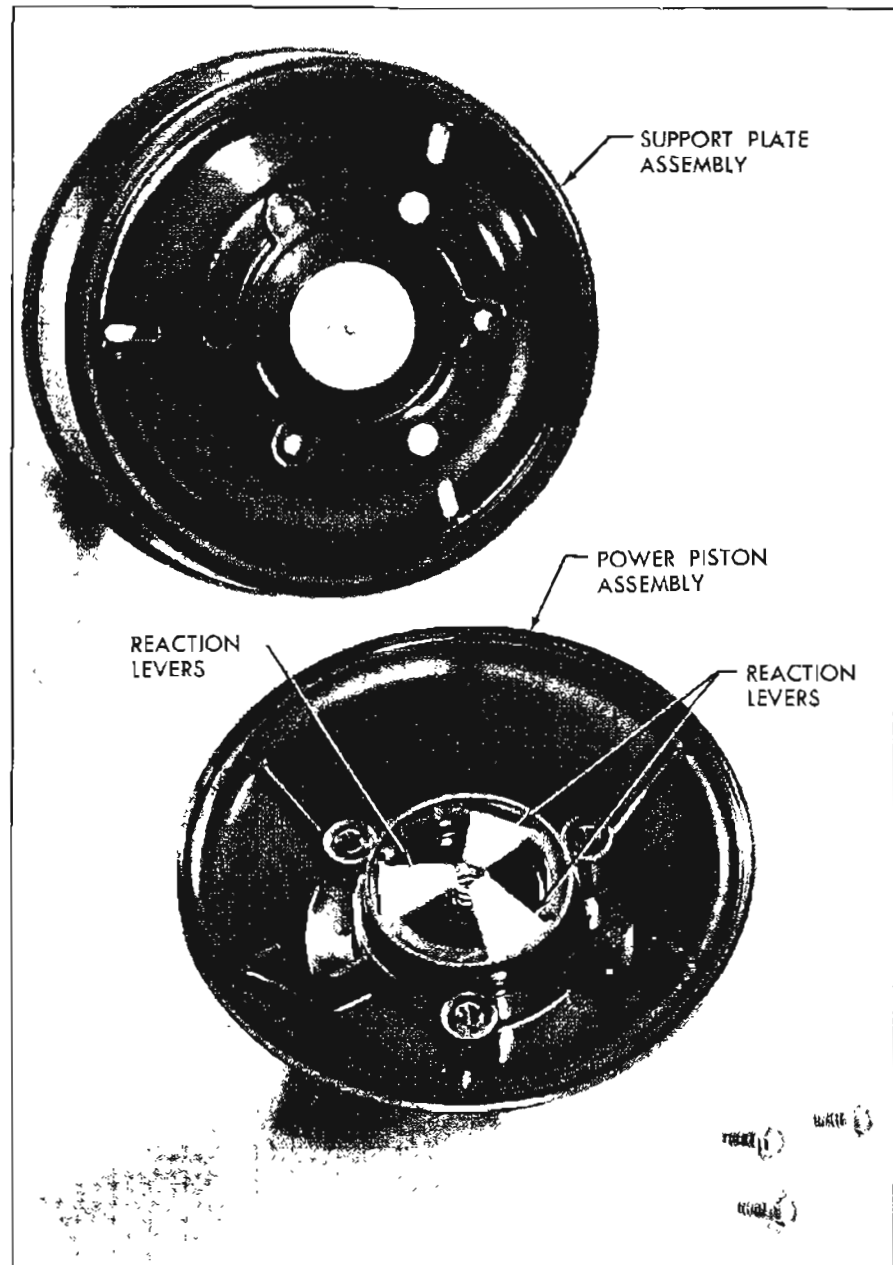

Figure 9-27—Installing Parts into Power Piston
knurled end of the master cylinder push rod so that it lies against the shoulder of the push rod. The master cylinder push rod is now inserted through the support plate so that the hydraulic reaction plate lies flat against rear side of support plate. See Figure 9-27.
12. Install the air valve "O" ring into the groove in the O.D. of the air valve. Place the air valve bumper over the flanged end of the air valve. See Figure 9-27. Lubricate the "O" ring with power brake silicone lubricant and press the air valve (push rod first) into the power piston insert.
13. Place the air valve spring into the counterbored end of the air valve. Position the ears of the reaction levers in the molded locations in the power piston insert and rest the small ends of the levers on the air valve spring. See Figure 9-27.